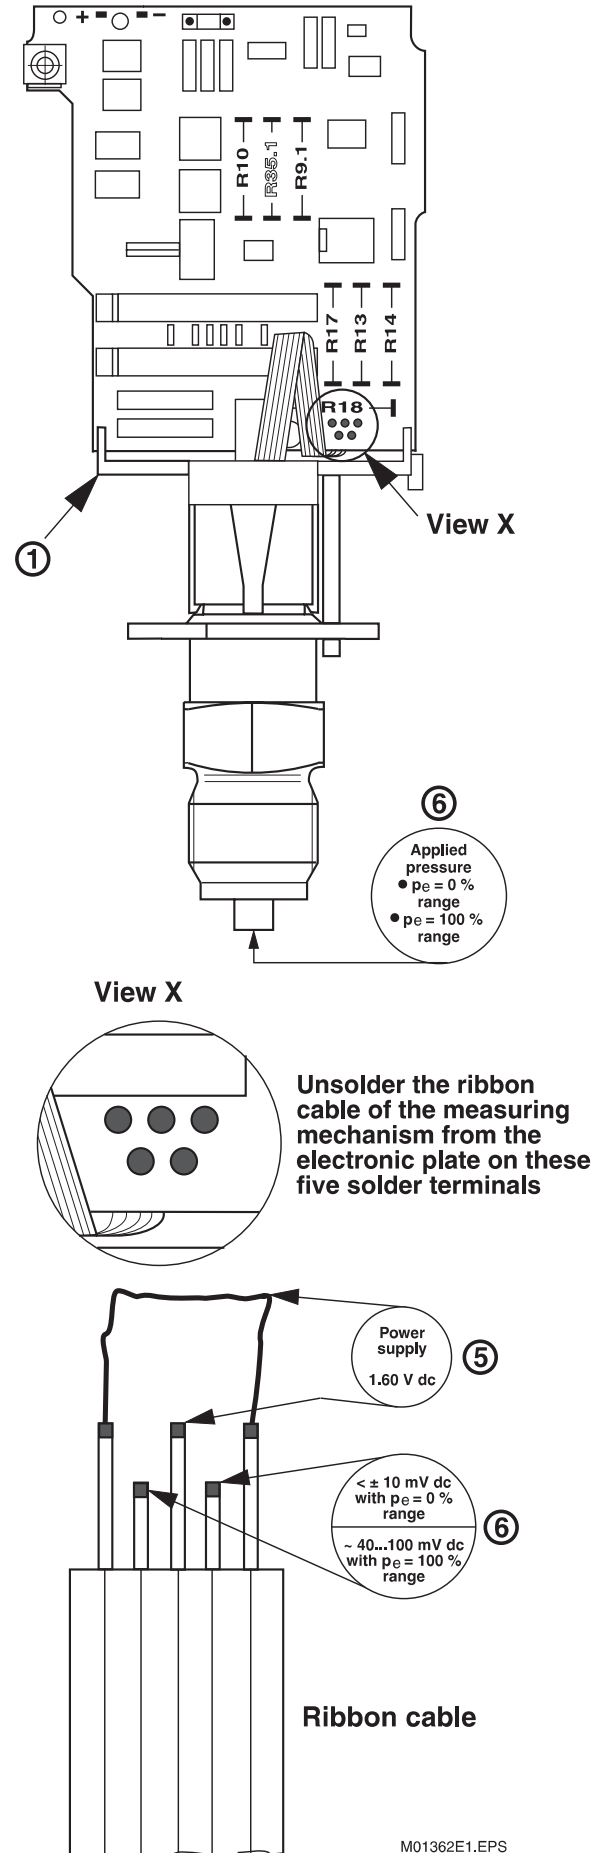

Fig. 24. Measuring mechanism / electronic unit of the AMD 200
(see Fig. 24)
2. Unsolder the wiring between the measuring mechanism and electronic on the electronic pcb (ribbon cable-Fig. 24-View X).
4. Connect the two outer wires with each other (Fig. 24 - view X).
5. Apply a voltage of **1.60 Vdc** to the "connected wires" and the "middle" wire (Fig. 24).
5. Push the ribbon cable between electronic unit and mount up to the soldering side. Solder the wires of the ribbon cable to the respective point on the electronic unit (Fig. 24). Observe soldering instructions!